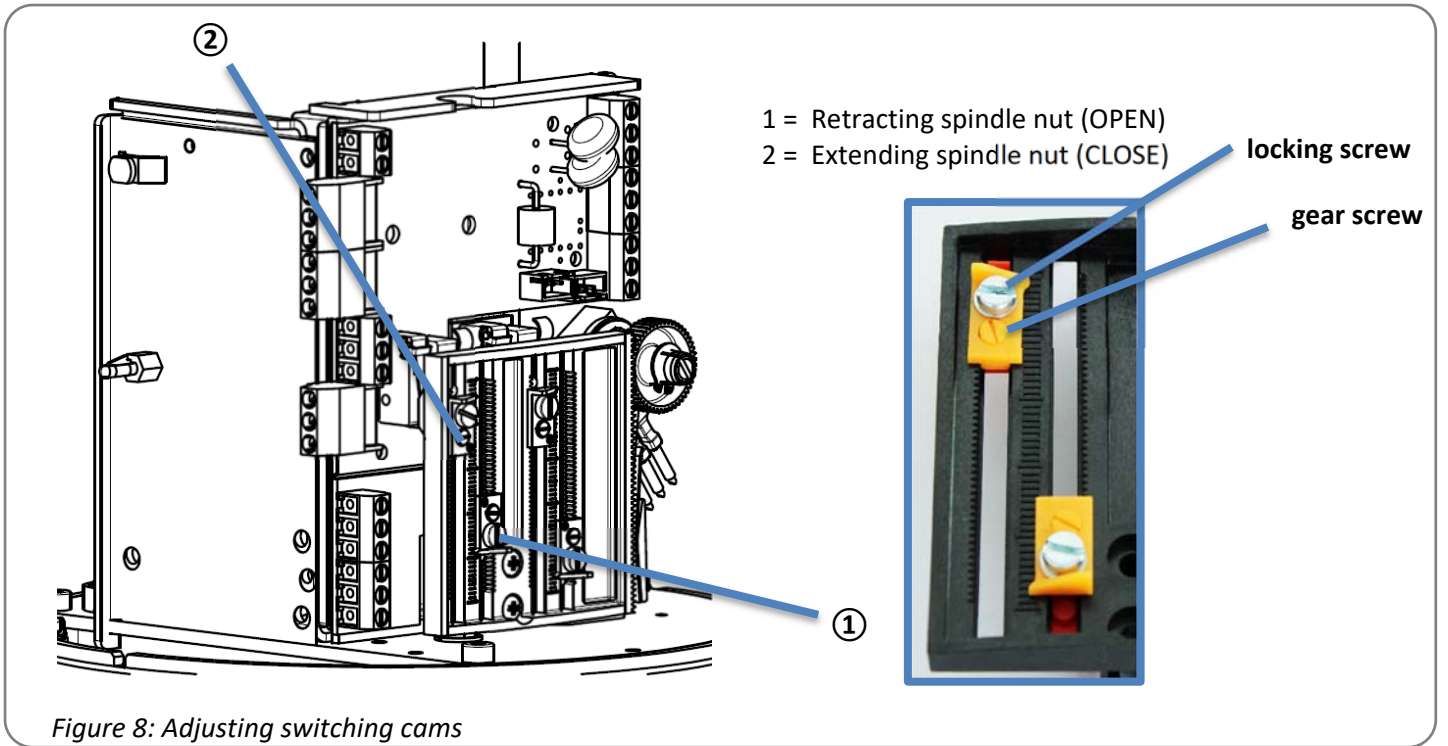

Figure 8: Adjusting switching cams
- Slacken-off the fixing screw on the corresponding switching cam (Figure 8: Adjusting switching cams), move the cam towards the limit switch until it clicks, and re-tighten the fixing screw.
- Unlock the fixing screw ① on the corresponding switching cam (Figure 8), use the gear screw ② to move the cam towards the limit switch until it activates, and re-tighten the locking screw.
- Unlock the fixing screw on the corresponding switching cam (*Figure 8*), move the cam towards the limit switch until it clicks, and re-tighten the fixing screw.
- Unlock the fixing screw on the corresponding switching cam (*Figure 8*), move the cam towards the limit switch until it activates, and re-tighten the fixing screw.